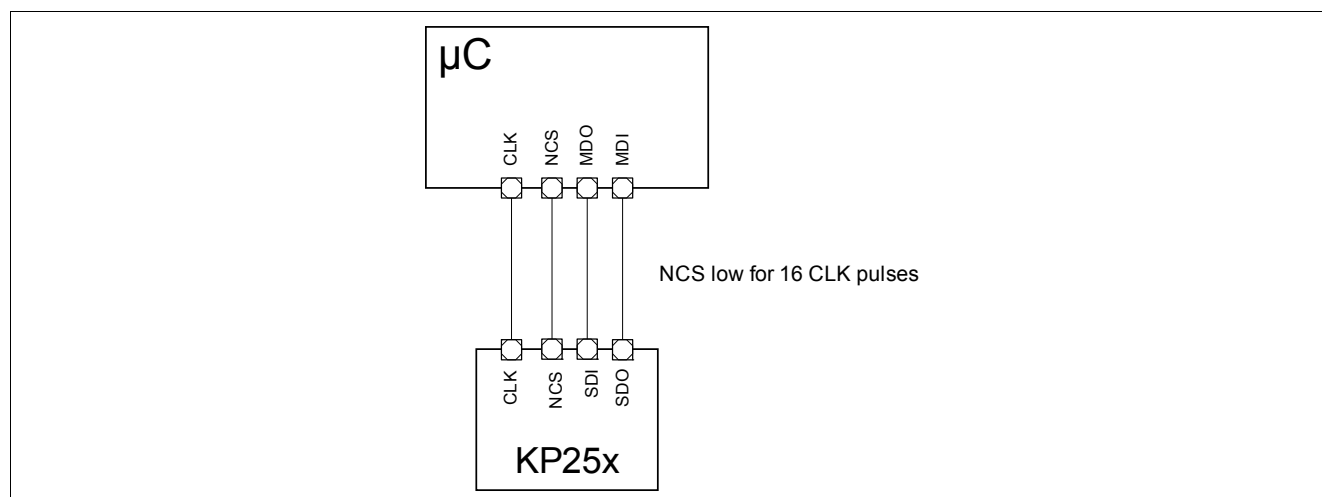

**Figure 17** Example for single device operation
**Figure 17** shows an example on how to connect a single device to a microcontroller.